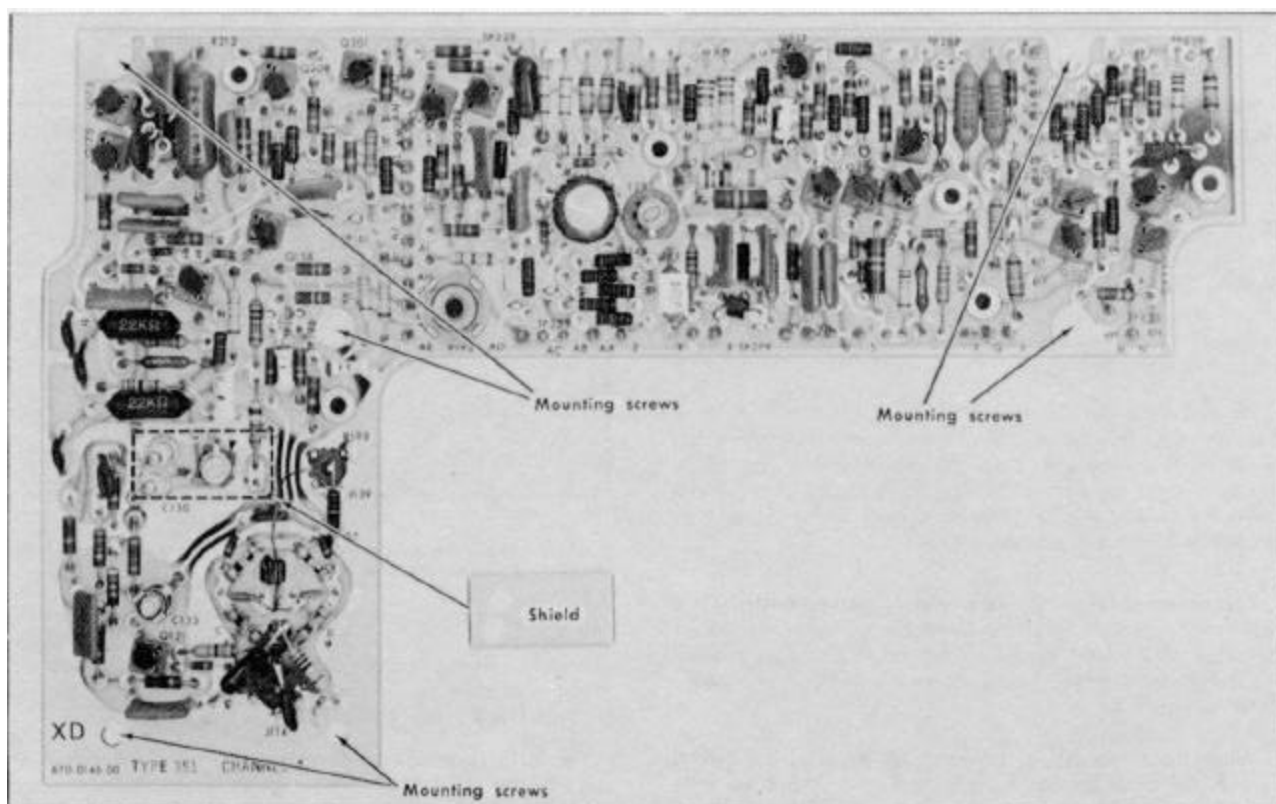

Fig. 6-2. Channel A circuit board with shield removed.
mounting screws for the A Channel board are shown in Fig. 6-2. The mounting screws for the B Channel board are in the corresponding positions on the right side of the instrument.
The preamp input correction circuits on the A and B boards are protected by small metal shields. These shields may be removed by grasping with the fingers and pulling straight out. See Fig. 6-2. The shields are replaced by inserting the shield corner pins in the correct pin-jacks and pressing gently. Be sure the shields are properly oriented; i.e., with the access holes over the adjusting screws in the capacitors.
2. Remove the board mounting screws (Fig. 6-2).